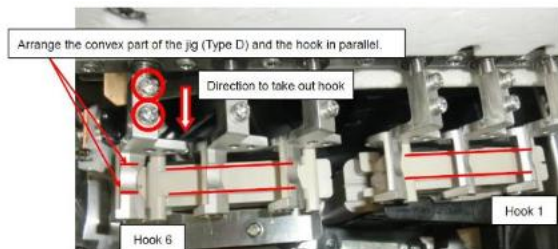

Figure 3.6 Arranging the CAPOC
- Move CAPOC towards the left side (Figure 3.6)
- After adjustment, tighten the four (4) fixing screws.